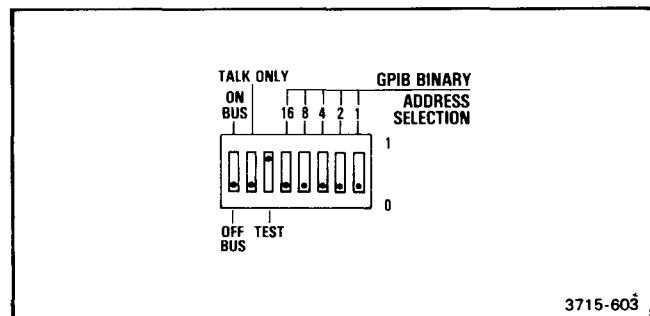

Figure 6-1. GPIB selector switch setting.
2. Set the rear-panel GPIB Selector switch as shown in Figure 6-1.